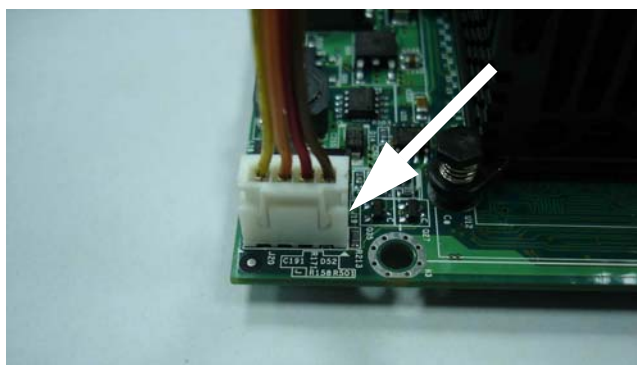

Figure 5-3
Step 2: And then use 4-pin power cable to connect both ATX P/S Control Connector on backplane and 5VSB Header For ATX (J20) on Signal Board Computer. (Figure 5-3)